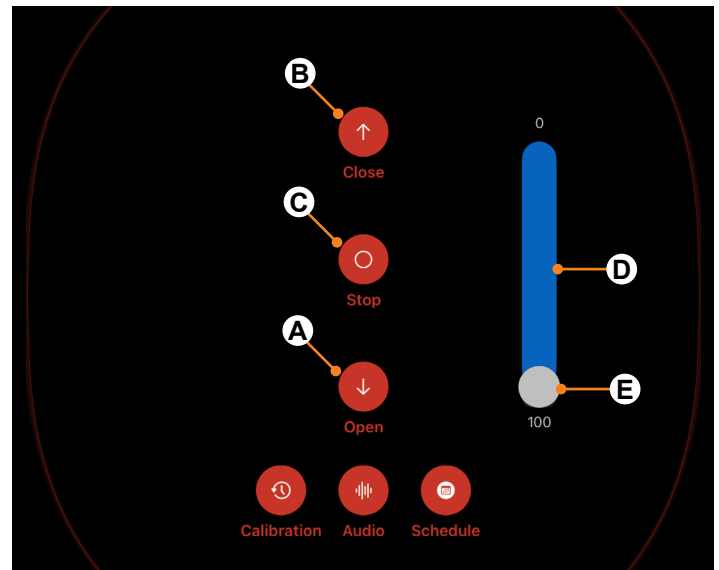

Fig.95
4. The awning can be fully controlled from the Awning Control Interface Screen (Fig. 95).